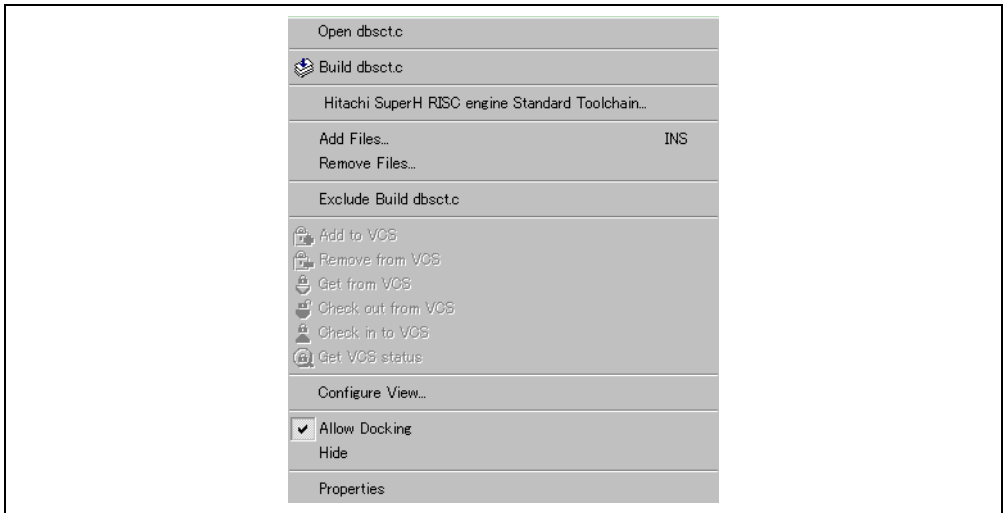

Figure 2.3: Project Pop-up Menu
1. Select **[Project->Add Files...]**, select **[Add Files...]** from the “Workspace” window’s pop-up menu (see figure 2.3), or press **INS** when the “Workspace” window is selected.